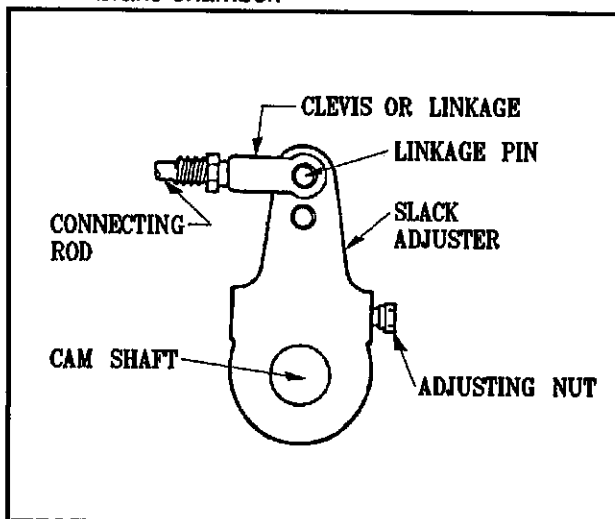

FIG. 6-1 SLACK ADJUSTER TERMINOLOGY
d. Remount the brake chamber on the axle brackets and reconnect the air service hoses and the slack adjuster connecting rod (**See FIG. 6-1**).
6-7.2 Drain the semitrailer air system of all air and moisture (See FIG. 6-1).
- b. Place a 9/16" box end or socket wrench on the slack adjuster adjusting nut (See FIG. 6-1), and push in on the locking sleeve.